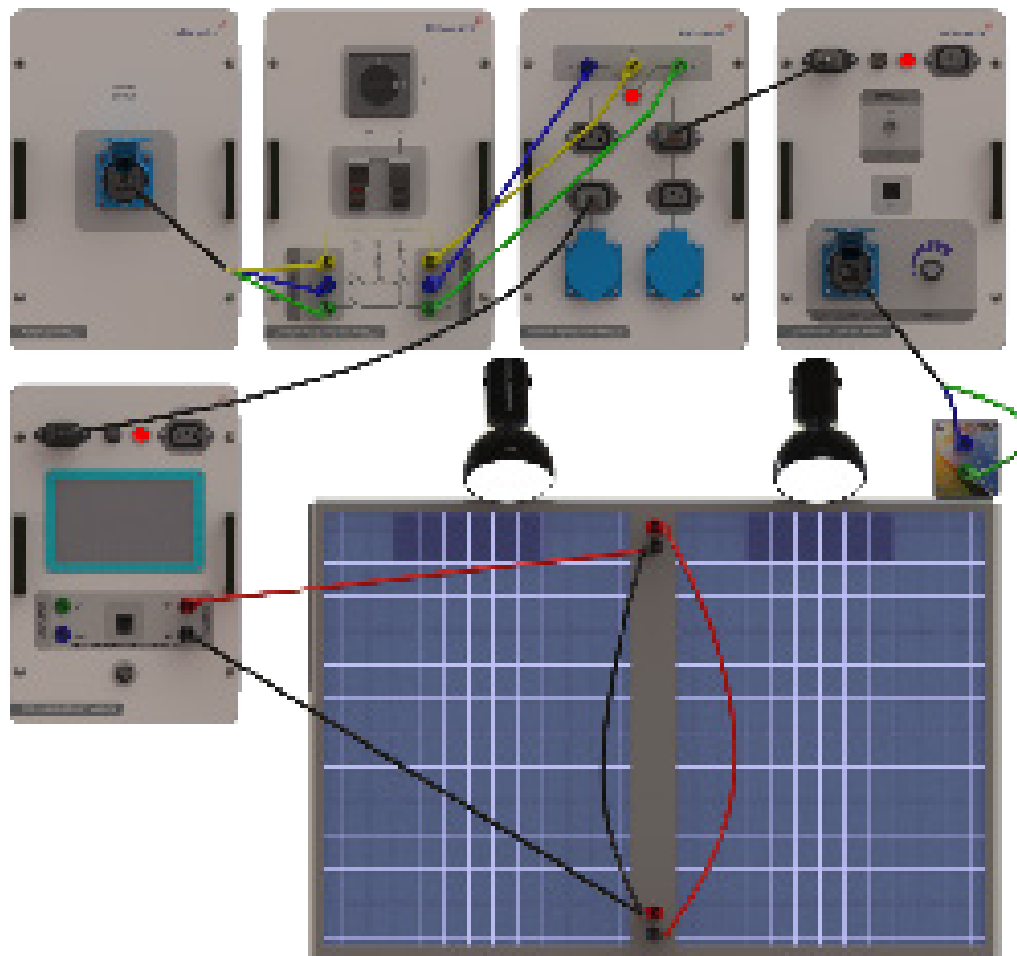

Figure-3
- 6) Connect as shown in figure-3. Notice that the panels are connected in series. Record in chart-1 the value observed on the ampermeter placed on the AC/DC Measurement Module. Notice that this is the shortcircuit current (I_{sc_series}) value corresponding to the series connection.